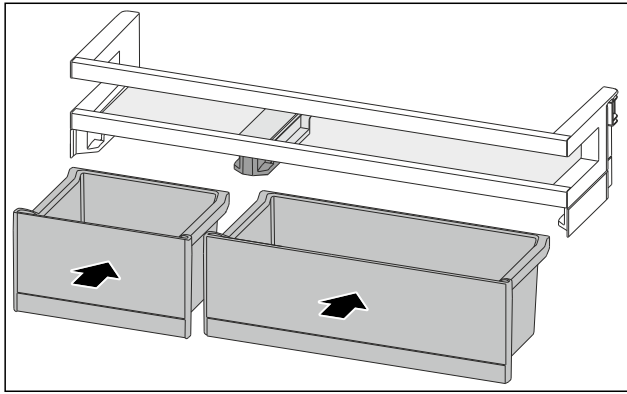

Fig. 131
- ▶ Insert the VarioBoxes opposite order. (see Fig. 131)